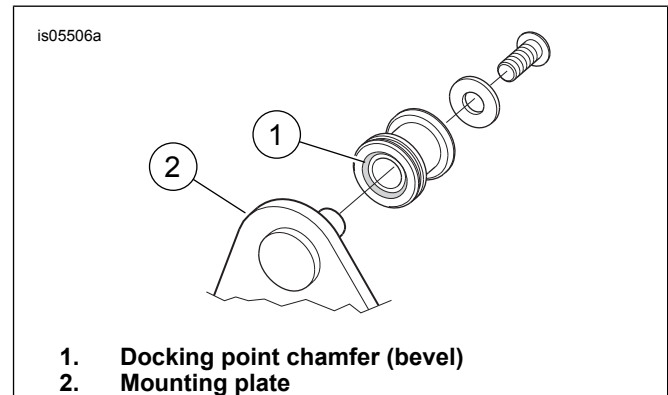

Figure 1. Docking Point Installation
ALL Models: See Figure 1. Attach the docking points to the docking plates (2) with the chamfer (1) facing the plate and the flat side facing out.